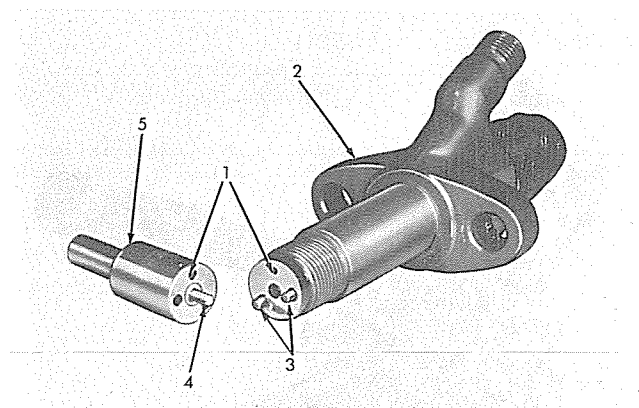

Fig. 7 — Fuel Injection Nozzle-Holder
The nozzle is positioned on the holder body by two dowels, Fig. 7 (3), so positioned that the four spray orifices are on a plane parallel to the top of the piston and the fuel duct in the nozzle is registered with the fuel duct in the holder.